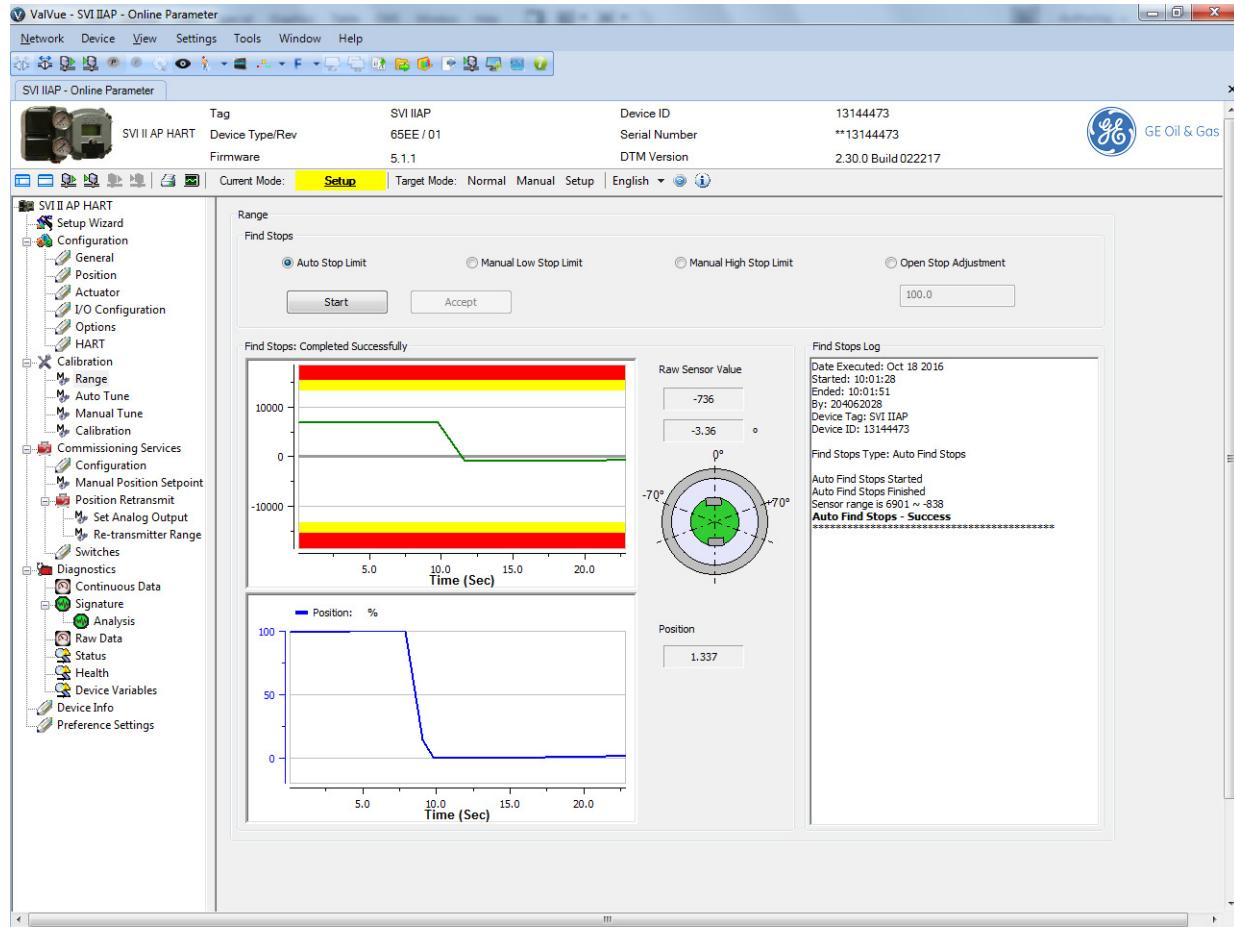

Figure 56 Auto Stop Limits Results: Succeeded
4. Click **Start**, the two graphs beginning showing results, the *Find Stops Log* lists detected values, test results appears (Figure 56) and if the test fails a list of reasons.